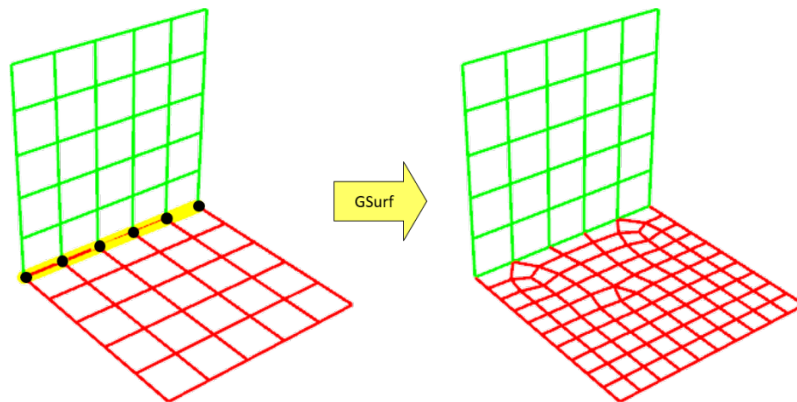

Figure 22: Specifying hard edges.
Hard edges are edges that are preserved in a mesh during the remeshing process. Consider an example in Figure 22 (left), which shows two conformal surface meshes. If one of the meshes (for instance, the red mesh) is changed (for example, refined) while the other is unmodified, the conformity of the meshes will be broken. **GSurf** offers a way to remesh a specific or all meshes while preserving conformity along mesh edges. This can be done by creating hard edges.
1. Use *Rhino's* **_DupBorder** command on the red mesh, which will duplicate the mesh border (i.e., will create a curve connecting only nodes on the mesh boundary). Delete unnecessary segments of the curve (use the **_SubCrv** command) leaving only those segments that connect to the green mesh (as shown in Figure 22, left).